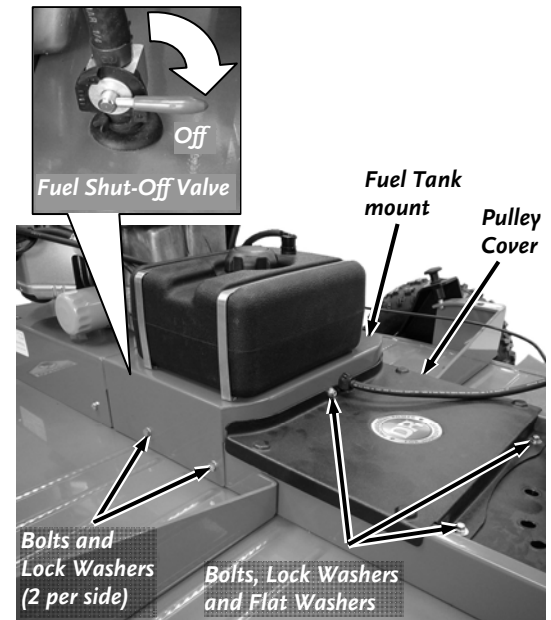

Figure 26
1. For Pro and Pro-XI Models, Turn the Fuel Shut-Off Valve to the OFF position (**Figure 26**).